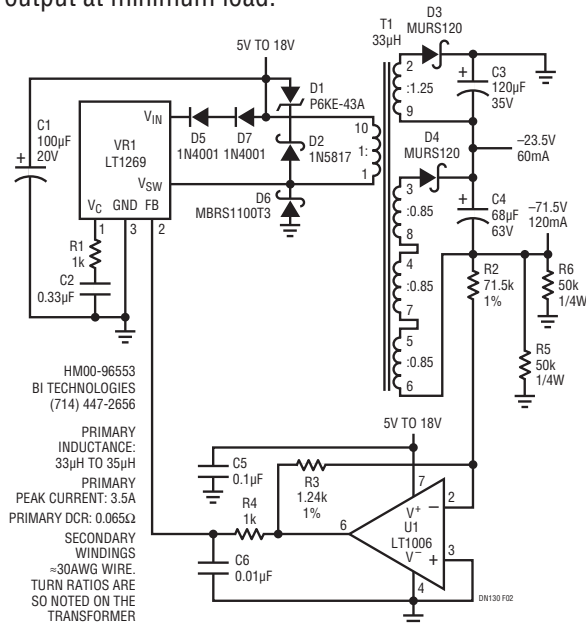

Figure 2
Figure 2 shows a current mode flyback power supply using the LT1269CQ device. This current mode device has a wide input voltage range, current limit protection and an onboard 60V, 0.20Ω bipolar switch. The input voltage range for the circuit is 5V to 18V. This design provides a wider input voltage range and greater output power than that of Figure 1. The output voltages are -23.5V at 60mA and -71.5V at 120mA (8.6W). This circuit is designed to power two SLIC devices. The circuit operation is identical to Figure 1, except for a larger switching regulator device (VR1) and a different transformer (T1). These changes allow for 5V operation and higher output power. This circuit is designed for full load on the -71V or -23.5V output. This accommodates the ringing on two SLICs or off hook on two
***Changes and Additions for Figure 2's Circuit**